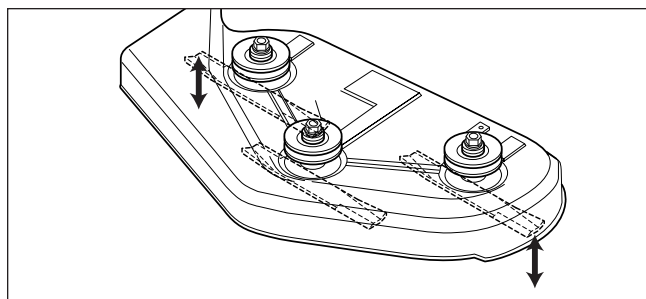
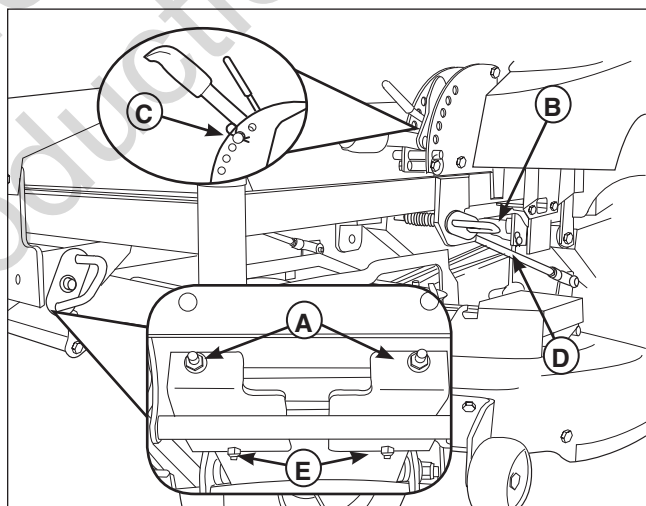

Figure 38. Orient Blades Side-to-Side
Figure 40. Mower Leveling
2. See Figure 38. Note the position of the 3 adjustment windows (A) in the side of the brake plate and the nylock adjustment nuts (B).
4. Alternately tighten the adjustment nuts (B, Figure 38) until the rotor face and armature face just contacts the gauge.
3. Place the mower cutting height pin in the 4th hole from the bottom (see insert, Figure 40). Arrange the outside mower blades so that they are pointing from side-to-side (Figure 38).
4. Measure the distance between the outside tips of each blade and the ground (Figures 38 & 39). If there is more than 1/8" (3mm) difference between the measurements on each side, proceed to step 5. If the difference is 1/8" (3mm) or less, proceed to step 6.
5. Use the rear leveling links (B, Figure 40) to adjust the side-to-side leveling of the deck. Repeat step 4 if necessary.
8. Check the length of the hanging rods. The rear (D, Figure 40) should be 15" (38,1cm) and is not adjusted. To adjust the pitch of the mower deck, adjust the front leveling nuts only.
9. Loosen the front lock nuts (E, Figure 40).
10. Turn the leveling nuts (A, Figure 40) counter-clockwise to lower the front of mower deck. Turn the nuts clockwise to raise the front of the mower. Make adjustments in small increments, trying to keep tension on both leveling nuts.
11. Tighten the front lock nuts (E).
3. Place the mower cutting height pin in the 4th hole from the bottom (C, Figure 40).